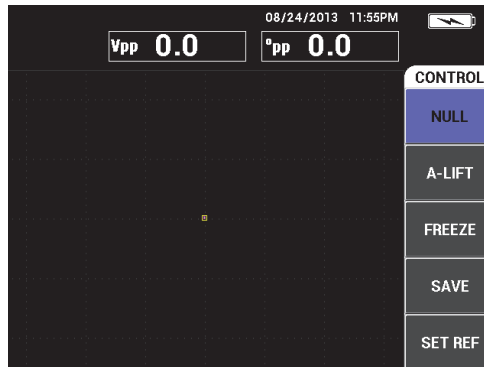

Figure 4-9 The controls displayed on the right side of the instrument
3. Rotate the knob to select **ON**, and then press the MAIN FILTER menu key (⌘) to display the controls on the right side of the instrument (see Figure 4-9 on page 86).